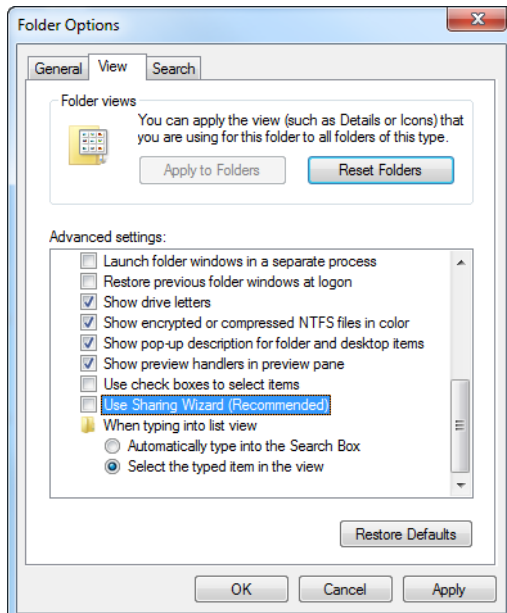

Figure 196. Folder Options Dialog - View Tab
2. Select the **View** tab and configure it according to Figure 196.